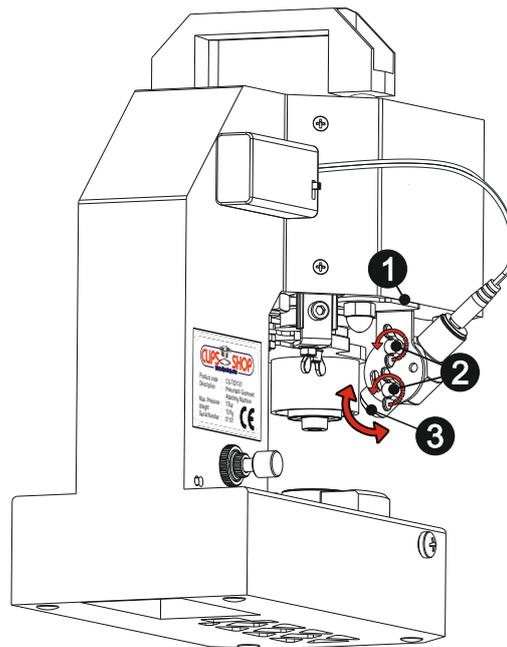

fig. 29
Make sure the bracket's edge ① is in parallel to the machine body. (in certain cases you may rotate the position of EyeleD pointer from this bracket as well.) Loosen the wing bolts ② by rotating them in the arrow direction. You can adjust the position of the light dot by rotating the EyeleD pointer ③ to the right or left in arrow direction as shown in (fig. 29).